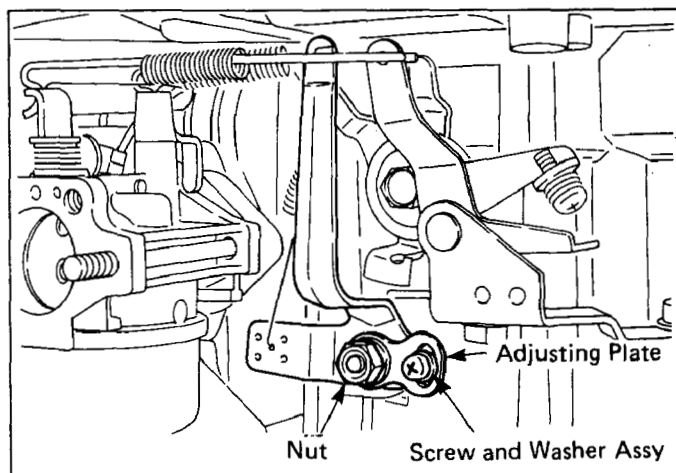

Fig. 15
- c) To the governor lever, fasten temporarily the adjusting plate with screw and washer assy. At this moment, the adjusting plate is free to move. (See Fig. 15.)